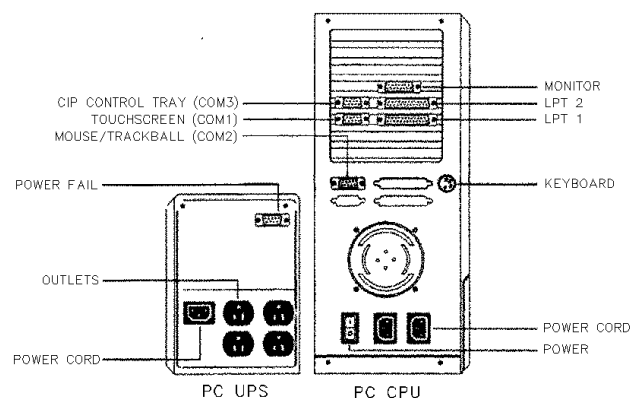

Figure 5-1 CPU AND UPS POWER CONNECTIONS
Refer to Figure 5-1.
2. Connect the data cable (DE9-M) to the PC CPU (COM 1). Refer to Figure 5-1.
Plug the DE9-M connector into the PC CPU (COM 2) Mouse/Trackball DIN. Refer to Figure 5-1.